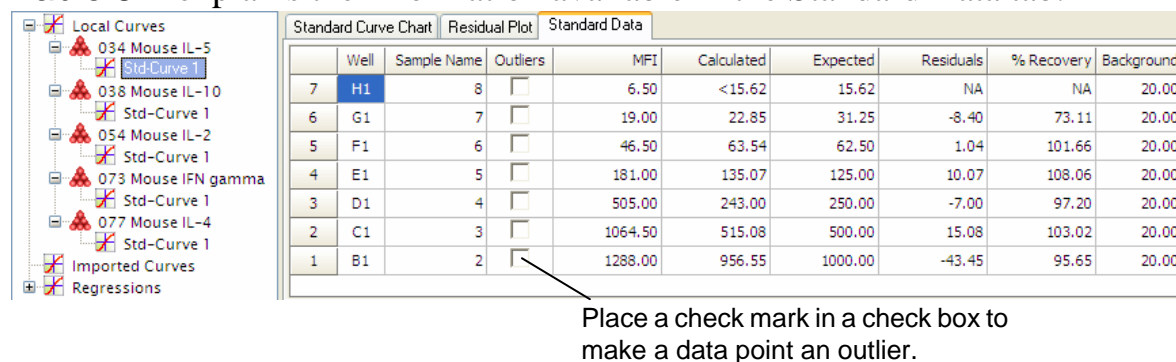

Figure 5.18 Standard Data tab
⇒ The data for the selected standards are displayed (Figure 5.18).
3. To specify an outlier, place a check mark next to the standard data point of interest (Figure 5.18).